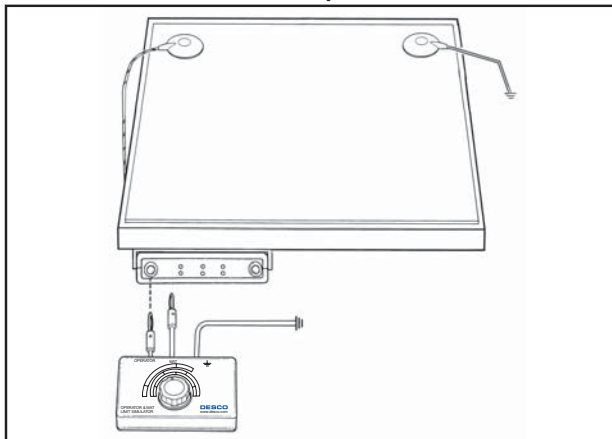

Figure 4. Connecting test lead from 98220 to 19232/19233.
**Step 2:** Insert the calibration unit's banana plug marked "Operator" into the "OP1" jack on the 19232/19233. See figure 4.
**Step 7:** Repeat this procedure for Operator (2) on the OP2 jack.